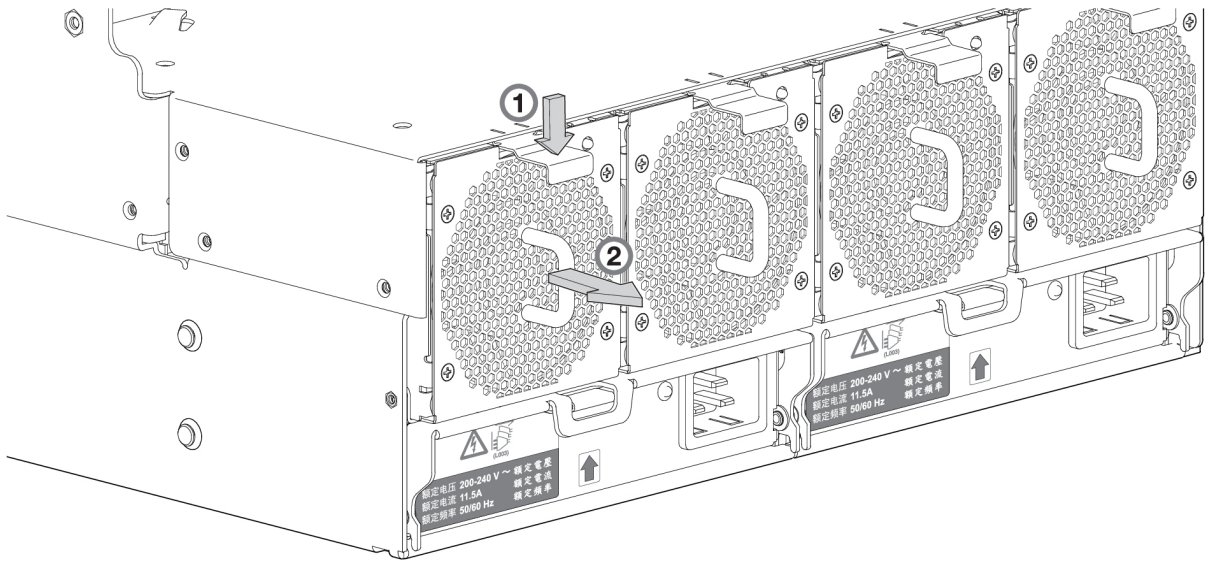
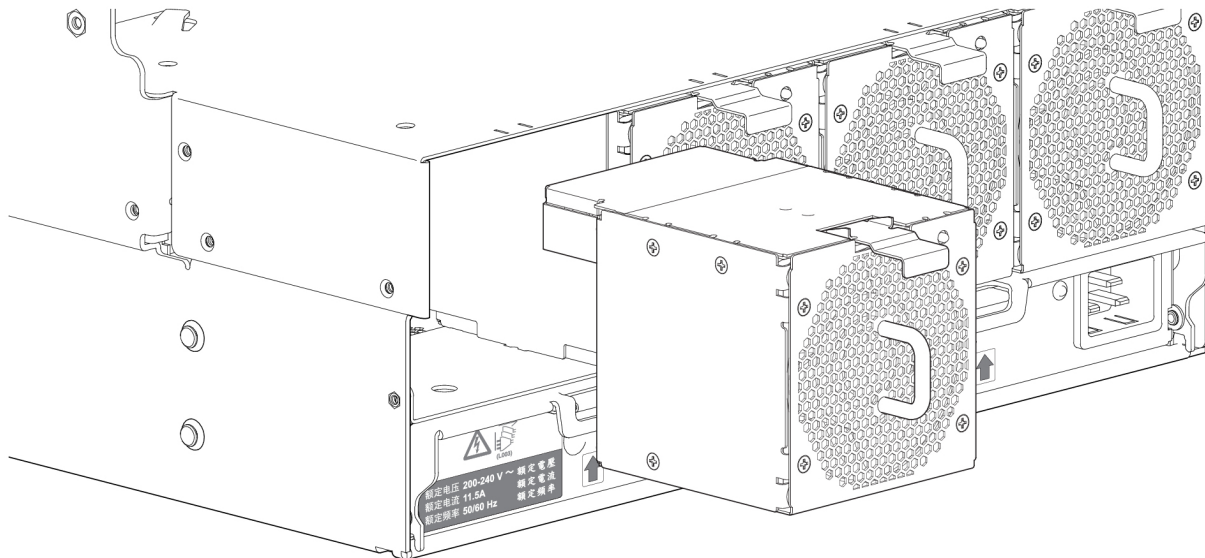

Figure 29. Removing a system fan (1 of 2)
Figure 30. Removing a system fan (2 of 2)
Refer to Figure 29 on page 59 and Figure 30 on page 59 when performing this procedure, but ignore the directional arrow—since you will insert the module into the slot—rather than remove it.
2. Align the system fan module for insertion into its slot, as shown in Figure 30 on page 59